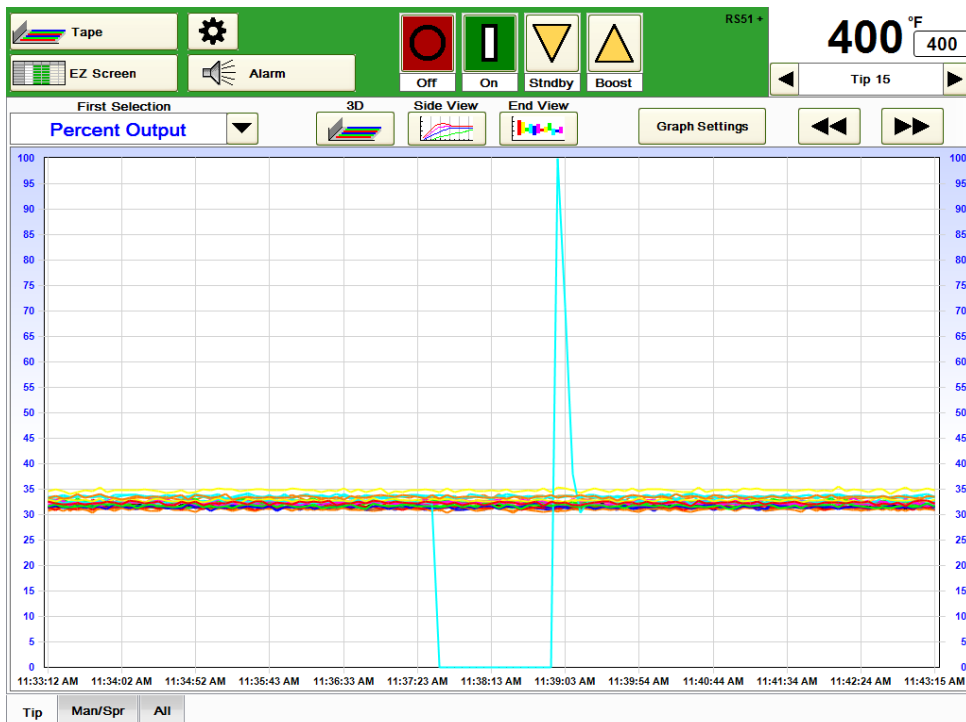

Figure 7j Tape Graph – Side View
- b) Side View – shown in Figure 7j